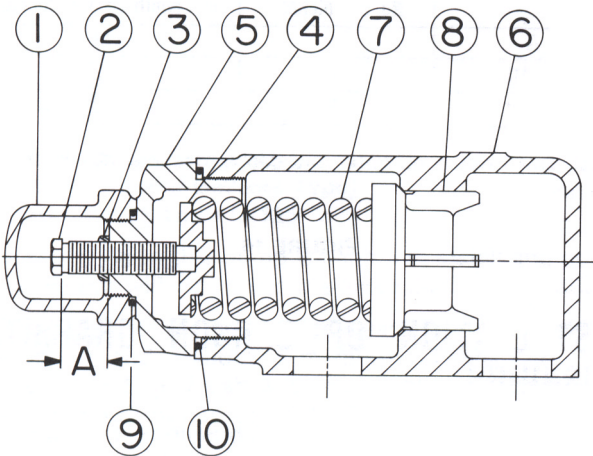

FIGURE 17 - Size AK and AL
2. Measure and record length of extension of adjusting screw. Refer to "A" on Figures 17, 18 and 19.